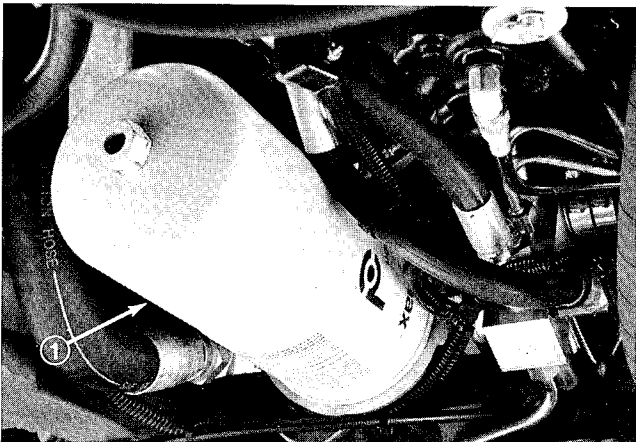

Figure 47
1. Place drain pan under filter and remove filter (Fig. 47).